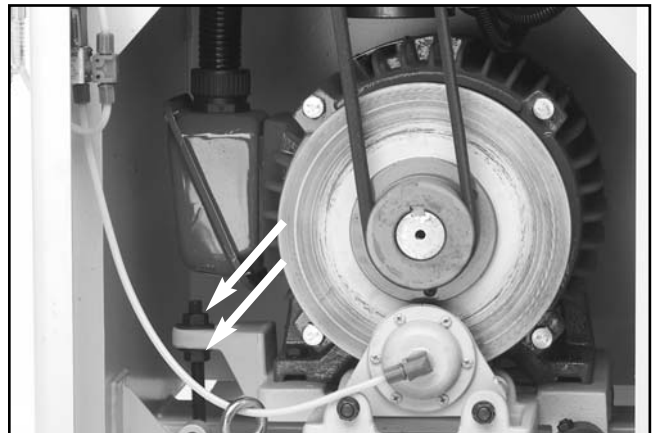

Figure 28. Loosen the V-belt by using the adjustment nuts.
2. Loosen the top nut on the motor adjustment bolt shown in **Figure 28**. Turn the bottom nut counterclockwise to raise the motor (or pry motor up with a scrap piece of wood) and loosen the V-belts.